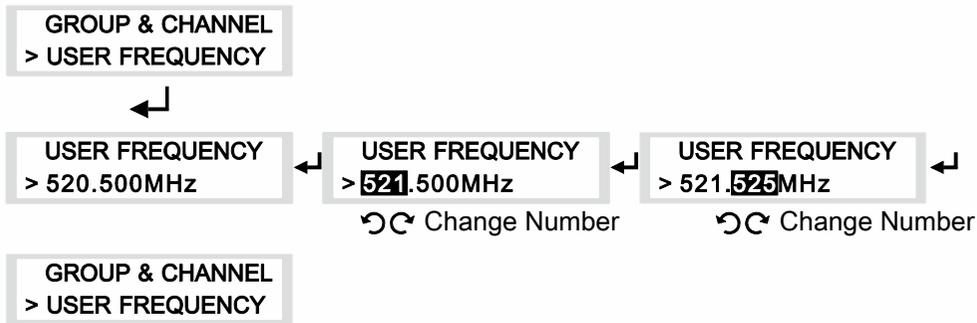

Fig. 9
- (1) Locate GROUP & CHANNEL menu, press to activate setting.
- (2) Turn left or right for desired GROUP. Press to save.
- (3) Turn left or right for desired CHANNEL. Press to save.
- (4) Once saved, indicator returns to listed menus.
(B) USER FRQUENCY Settings, Fig. 9: